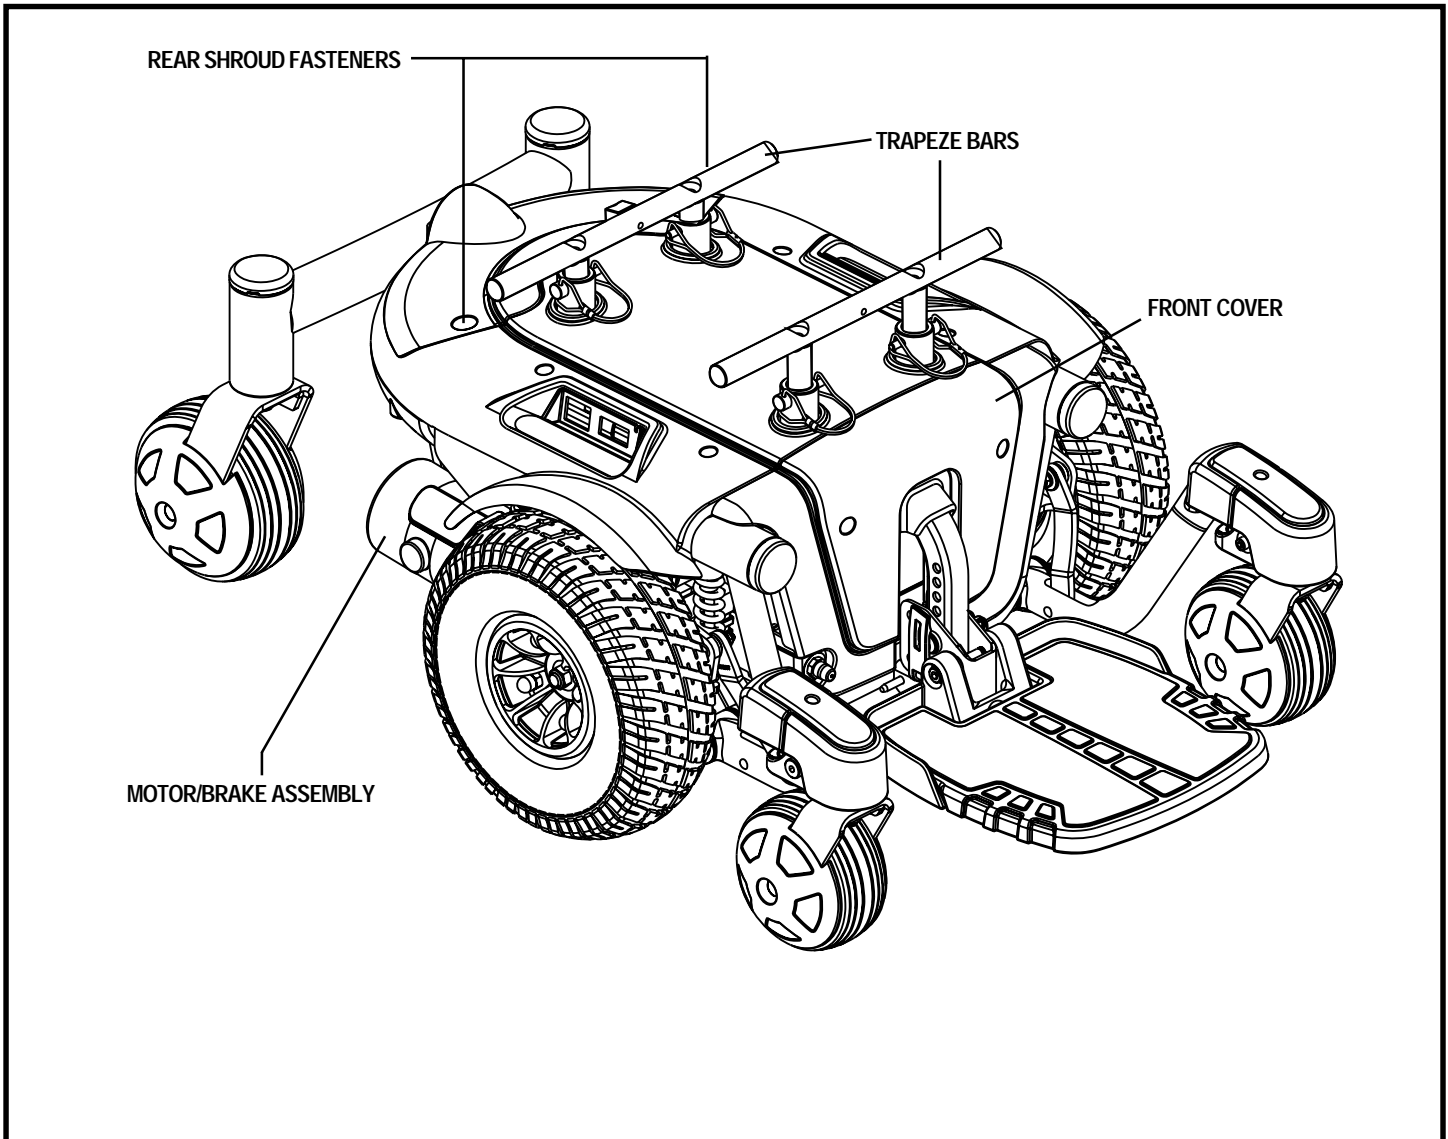

Figure 6. The Quantum 610 Power Base
5. Loosen the rear shroud fasteners counterclockwise one-quarter turn and remove the rear shroud. See figure 6.
7. Reinstall the rear shroud. Turn the rear shroud fasteners clockwise one-quarter turn. See figure 6.
2. Unlock the rear shroud fasteners and remove the rear shroud. See figure 6.